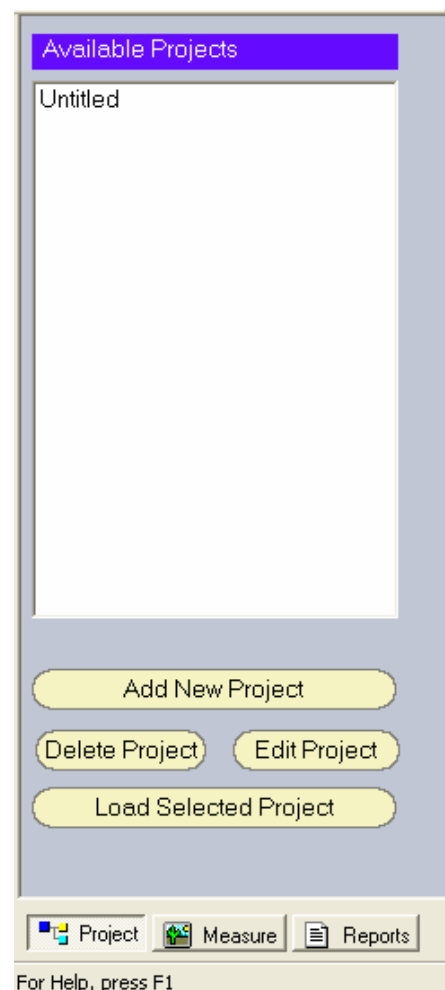

Figure 20 : Project Tab
1. Click  button to switch to Project control tab. The available projects and project related buttons are displayed in the Project tab (Figure 20)